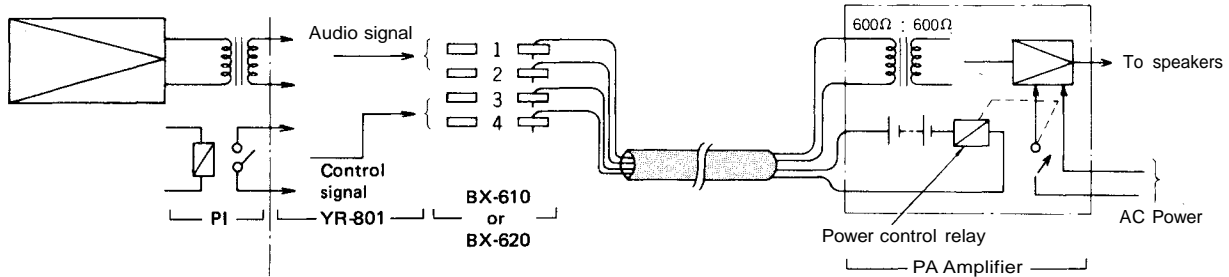

Fig. 1
The audio signal line and control line from the PI unit are connected to clip terminal P1 or P2 inside the terminal board. Fig. 1 shows how to make connections between the terminal board (BX-610 or BX-620) and external PA amplifier.
If the distance between the terminal board (BX-610 or BX-620) and external PA amplifier is over 33 feet (10m), use the balanced type to avoid external noise such as hum. Care should be taken in selecting a relay for power control of the external PA amplifier due to the small line contact capacity (30V, DC 0.5A). Refer to Fig.1.
2. Perform the wiring of the station paging assignment plug by soldering according to the zone allocation determined. Refer to Fig. 1 and Table 1.